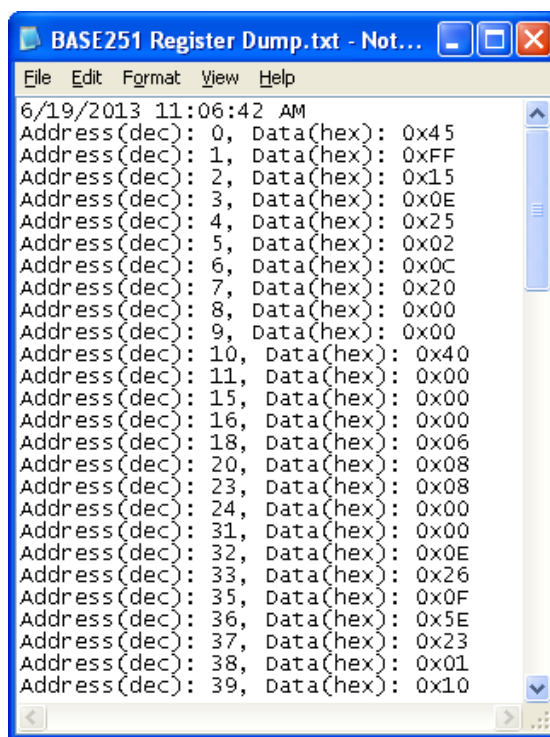

Figure 11 – Register Settings Saved to Text File
- **Save Registers to File:** When this checkbox is checked and *Read All* is pressed, all registers settings are saved to a text file. The file is stored under **C:\Program Files\Microsemi\ZL70251 ADK [Version]\Program** where **[Version]** is the ADK version. Figure 11 is an example of the file format viewed in Notepad.
- Figure 11 shows that the address is displayed in decimal and the data is displayed in hexadecimal. This is compatible with the default format shown in the registers main form as well as the *ZL70251 Programmer User's Guide*.